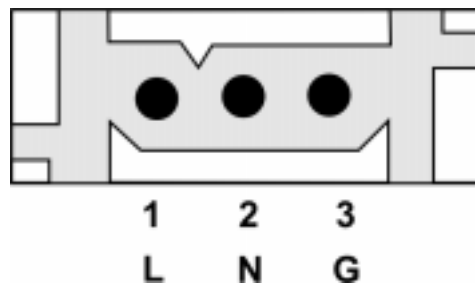

Figure 5. Positronics Connector on “C” Option of DPAC1U
8.4 NEMA 5-15R and Positronics Connections. For the "C" output option the input connections are to Positronics connectors, one for each of the four inverter inputs. The connector is no. PLA03MI10000 with MC112N contacts; the mating connector is PLA03F0050 with FC112N2 contacts. See Figure 5 for a diagram of the Positronics connectors. Each NEMA 5-15R receptacle is rated up to 15 amperes output.